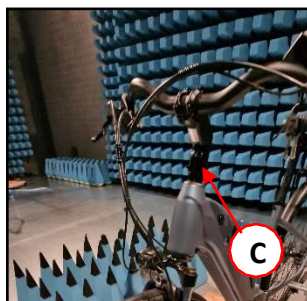

Figure 3 – Handlebar height regulation.
6. Adjust the height of the handlebar using the appropriate adjustable tube. Unscrew the two fixing screws, adjust the height and tighten the screws again (Ref. C Figure 3).